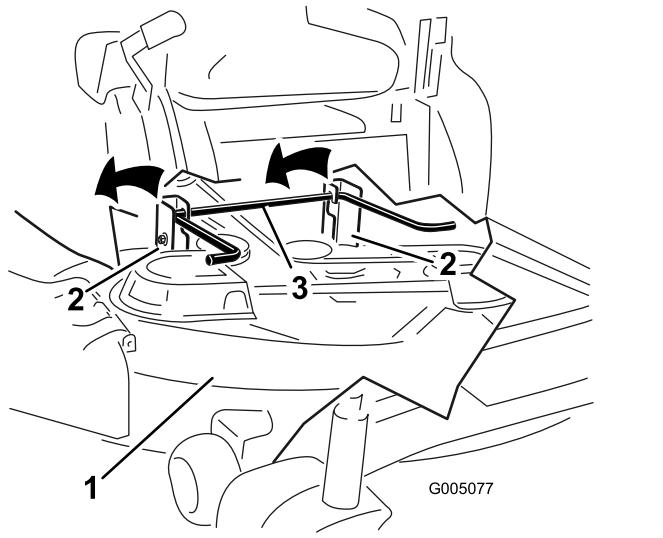

Figure 66
- Lift the mower deck and hanger brackets clear of the rear lift rod and lower the mower carefully to the ground (Figure 66).
- Lift the rear of the mower deck and guide the hanger brackets over the rear lift rod (Figure 66).